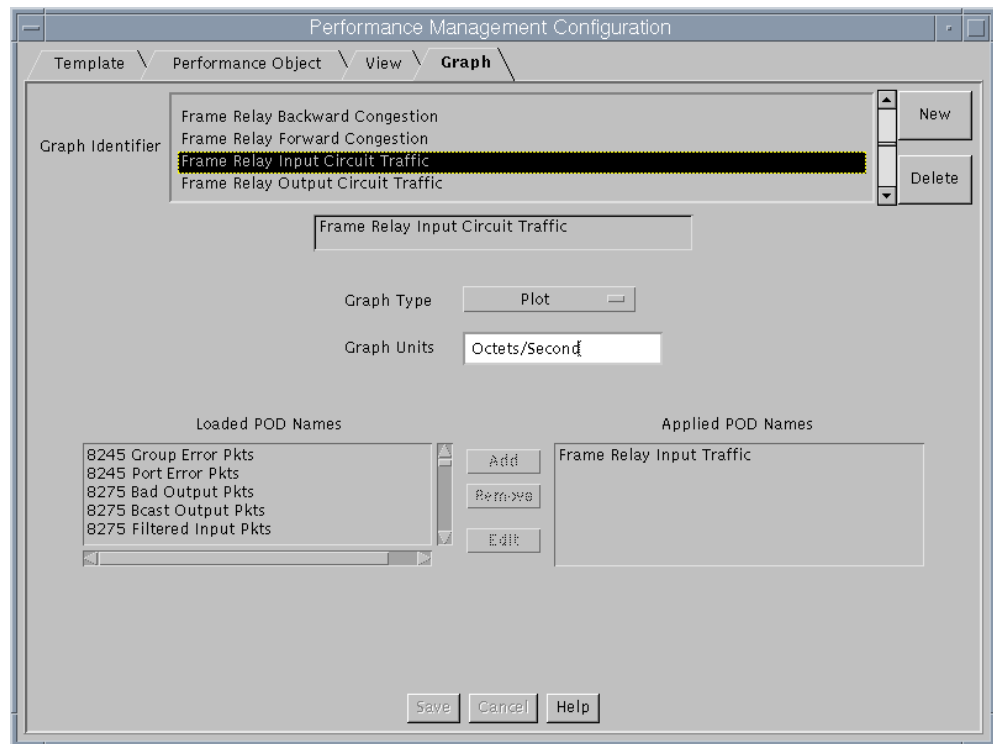

Figure 211. Example Graph Configuration: Frame Relay Input Circuit Traffic
- Graph - This page is used to create or modify graphs. You may combine any performance objects that exist (and are displayed in the left-hand list box) to create graphs (see Figure 211).